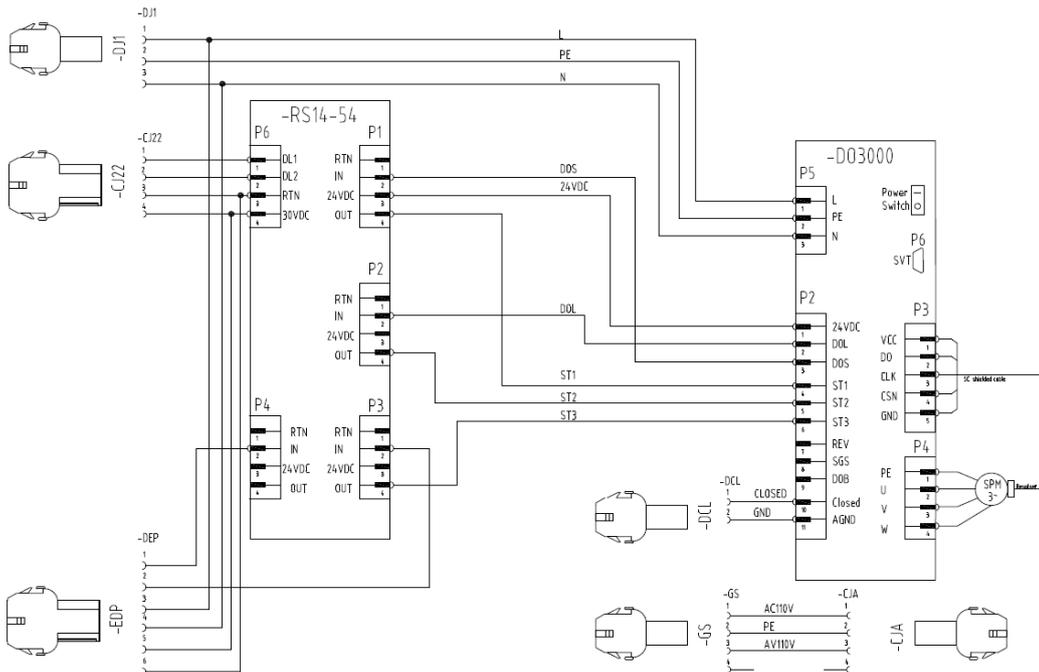

Fig.3-5 Wiring of HAA24360G4, HAA24360G9 controller components
3.1.4 Wiring of HAA24360G4, HAA24360G9 controller components (as shown in Fig.3-5)